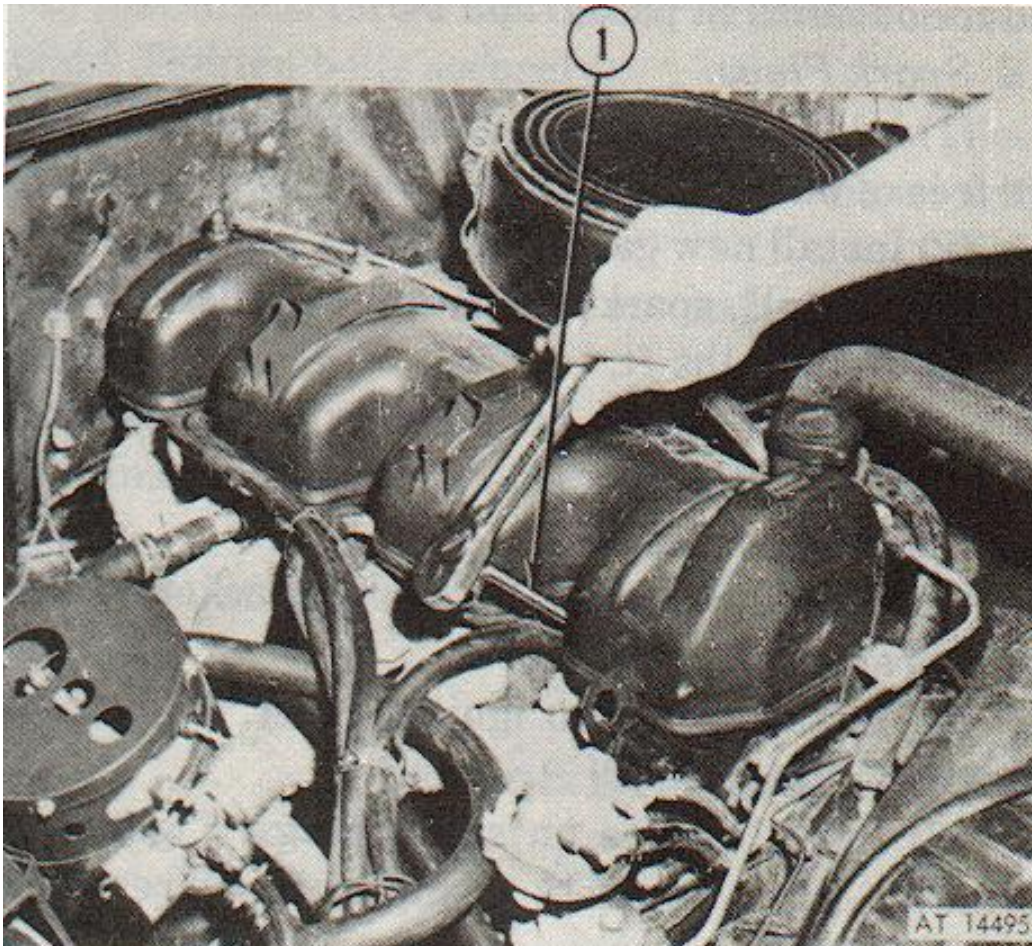

Figure 2-34. Spark plug and cable removal.
- (1) Disconnect spark plug terminal nuts from spark plugs, using cable wrench FSN 5120-168-2283. (Fig 2-34)
- (2) Remove all dirt from around spark plugs.
- (3) Remove spark plugs by using a 13/16-inch deep well socket and turning counter-clockwise. Discard spark plug gaskets.